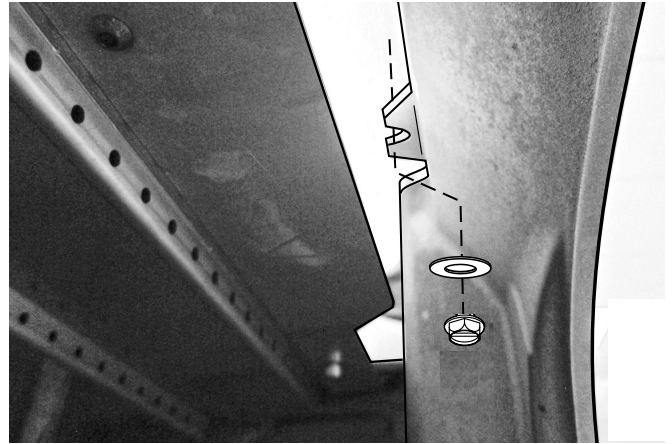

Fig. 19. Remove both top plate nuts located inside the front door opening.
The combustor components are accessed by removal of the top plate which is secured to the front plate by two M6 flange nuts with M6 fender washers, fig. 19, and two M6x40 set screws which are secured through the left and right sides, fig. 20.
1. Use the 10mm socket wrench with extension to remove the two top plate M6 flange nuts with M6 fender washers located behind the front plate inside the stove as in fig. 19.